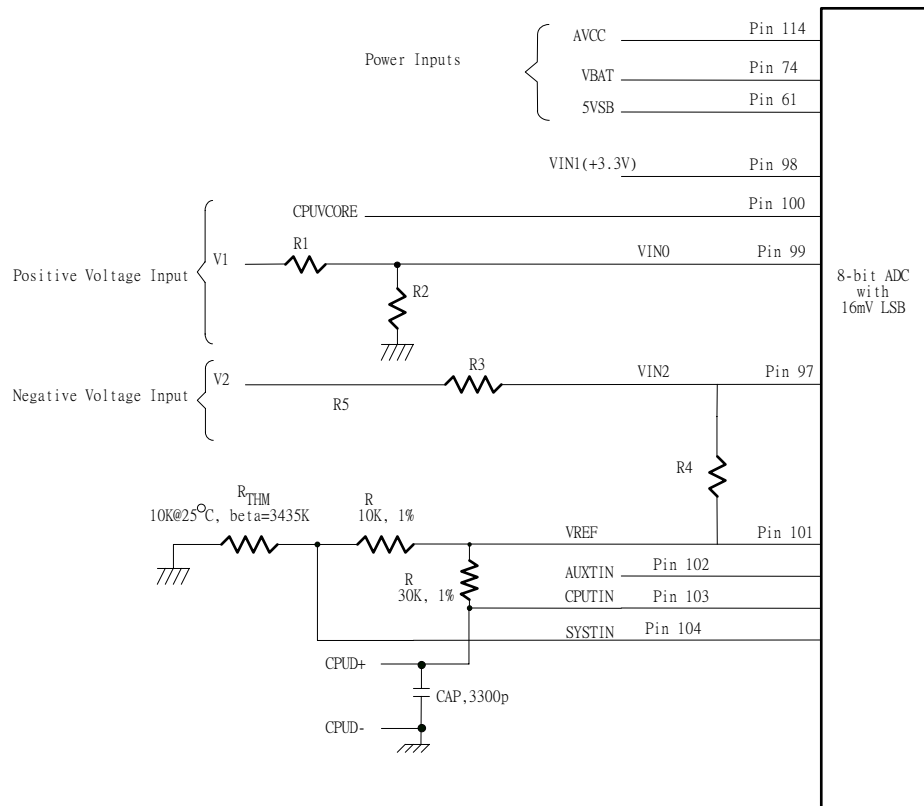

Figure. 5-2
The W83627THF can connect three thermistors to measure three different environment temperature. The specification of thermistor should be considered to (1)  $\beta$  value is 3435K, (2) resistor value is 10K ohms at 25°C. In the Figure 5-2, the themistor is connected by a serial resistor with 10K Ohms, then connect to VREF (Pin 101).